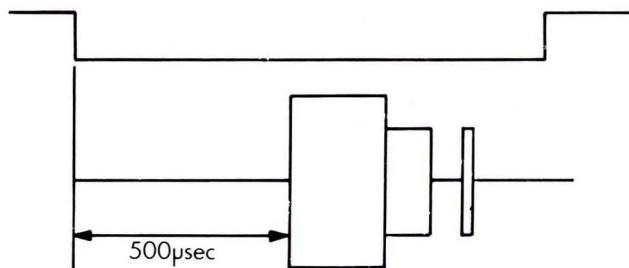

Fig. 5-1 Index burst waveform
- vi) Adjust VR201 so index frequency is $200 \pm 2\text{ms}$ (See Fig. 5-1).
- 5) Measure timing between sweep start and an initial data pulse. It should be 500 usec \pm 500 usec. When the timing is not within this range, proceed with the following adjustment. (Refer to Fig. 5-1).
Tighten the screws. (Fig. 5-1).